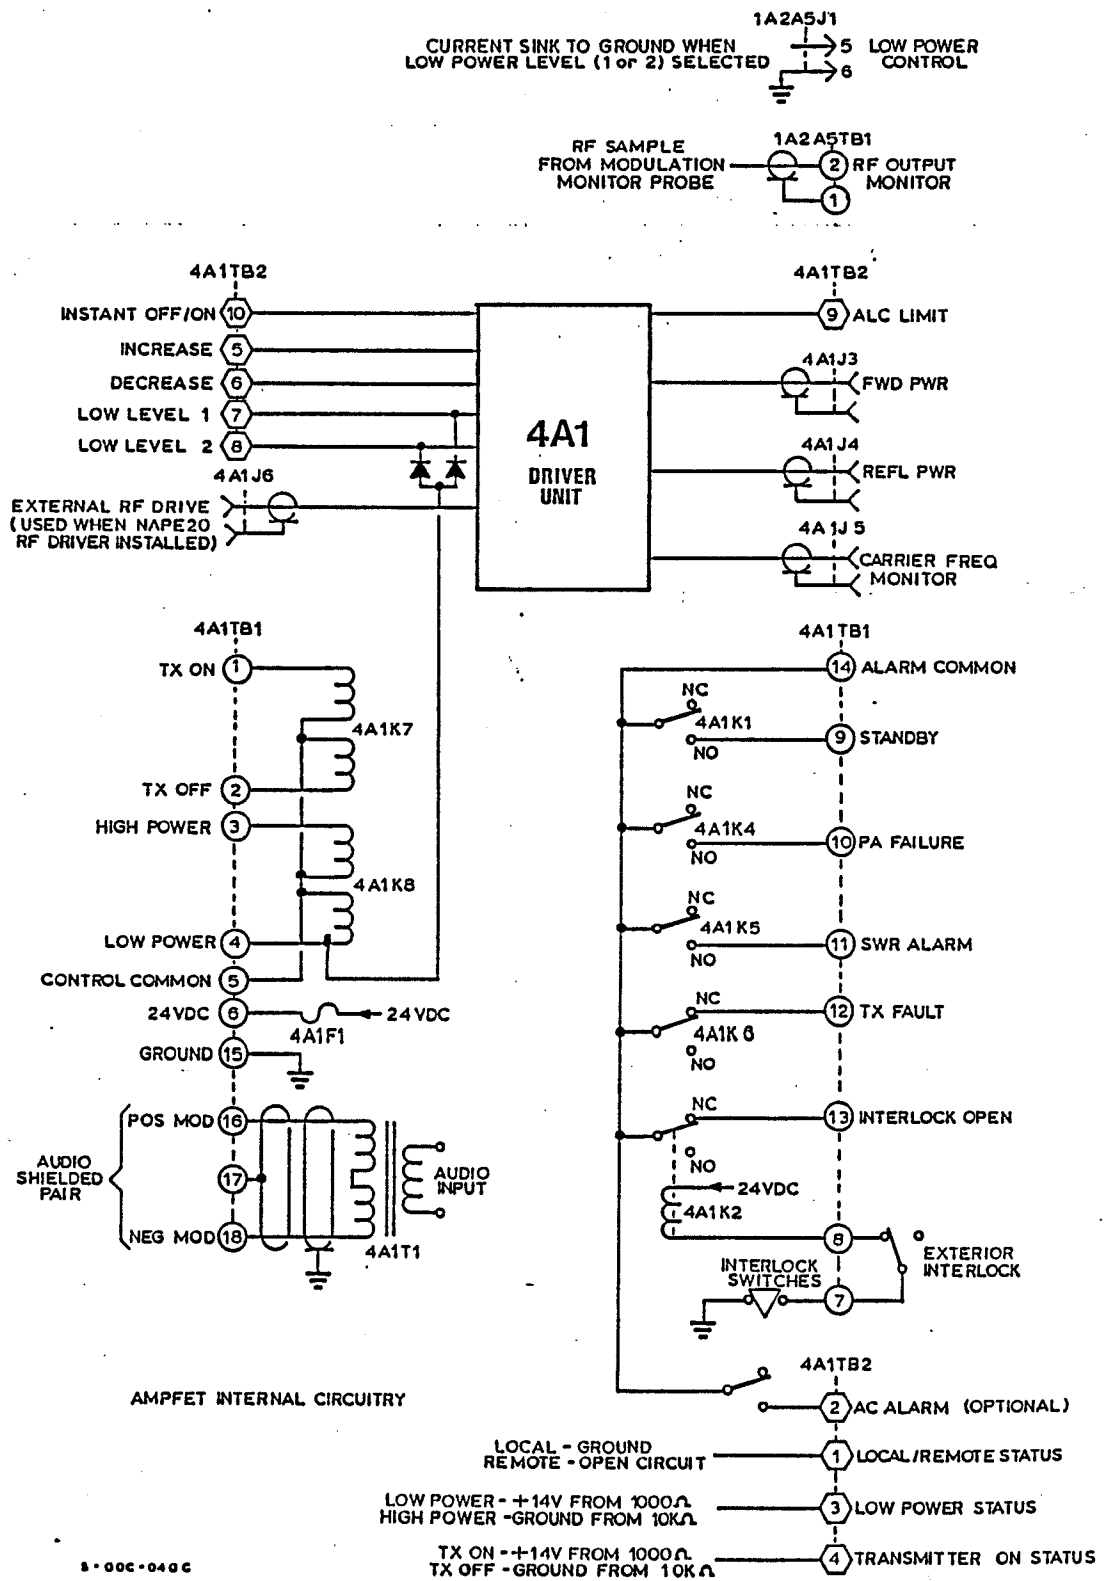

Figure 3-1 External Input/Output Interface
3.8.2.4 External Control/Monitor Electrical Connections: Connect the wiring from the external control and monitoring circuits as follows (see figure 3-1):
- (b) Using figure 3-1 as a guide to determine their final destinations, cut the wires to the required length.
- (d) Connect the wires that terminate at 4A1TB1 and 4A1TB2 to their appropriate terminals (see figure 3-1).
- (g) Connect coaxial cables to the appropriate BNC mating connectors (see figure 3-1).